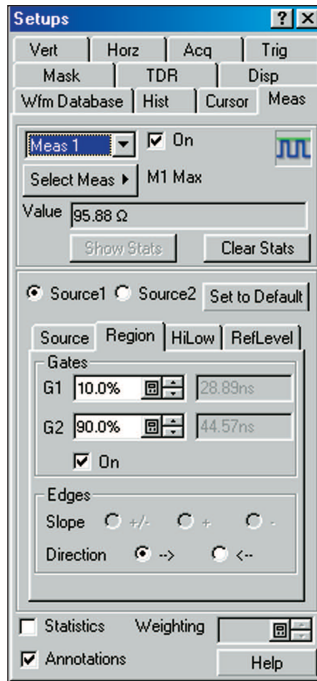

Figure 16. Measurement Menu
- Display the Measurement Setup menu (Figure 16) and create a Region using Gates for each measurement. In this example, 10% and 90% of the horizontal display will be used for the region to be measured. You may also want to turn on Annotations to see exactly where the measurements are being made.